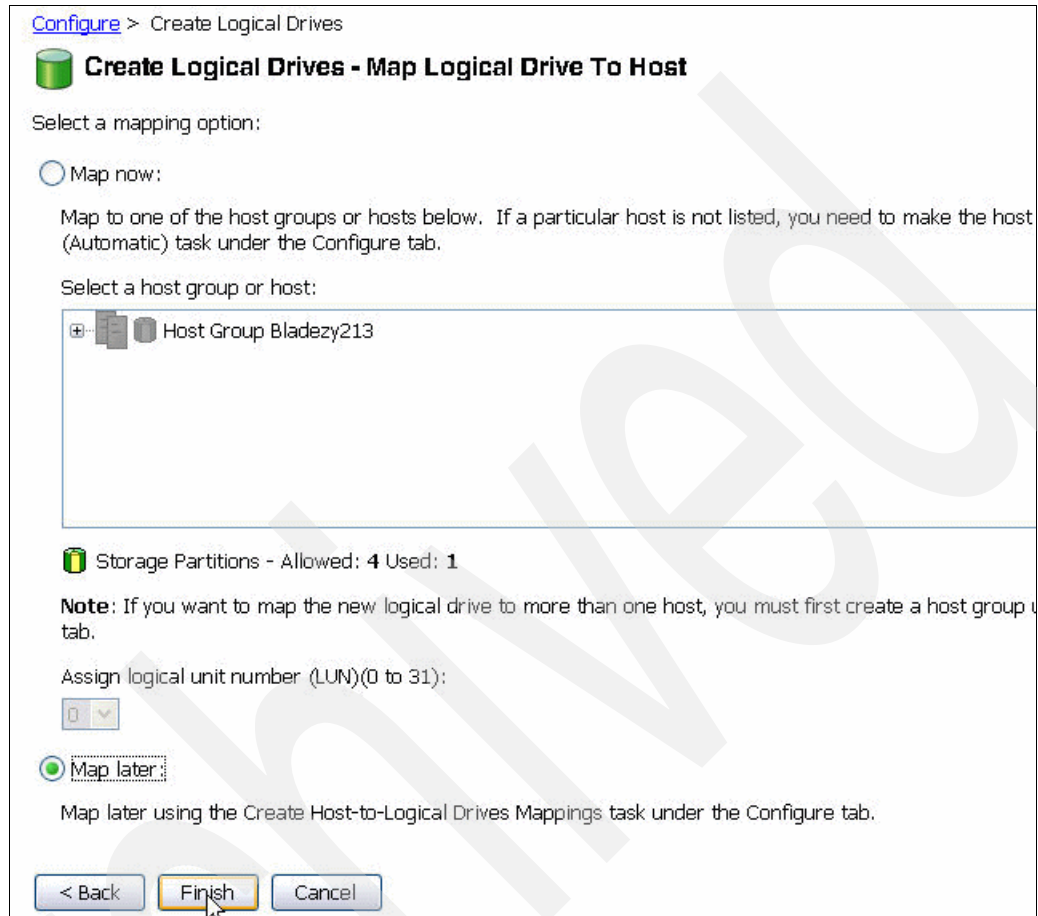

Figure 7-31 Finish defining logical drive
7. In the Create Logical Drives - Map Logical Drive To Host window we select **Map later** since we will later map all created logical drives to the host, and we click **Finish**. See Figure 7-31.